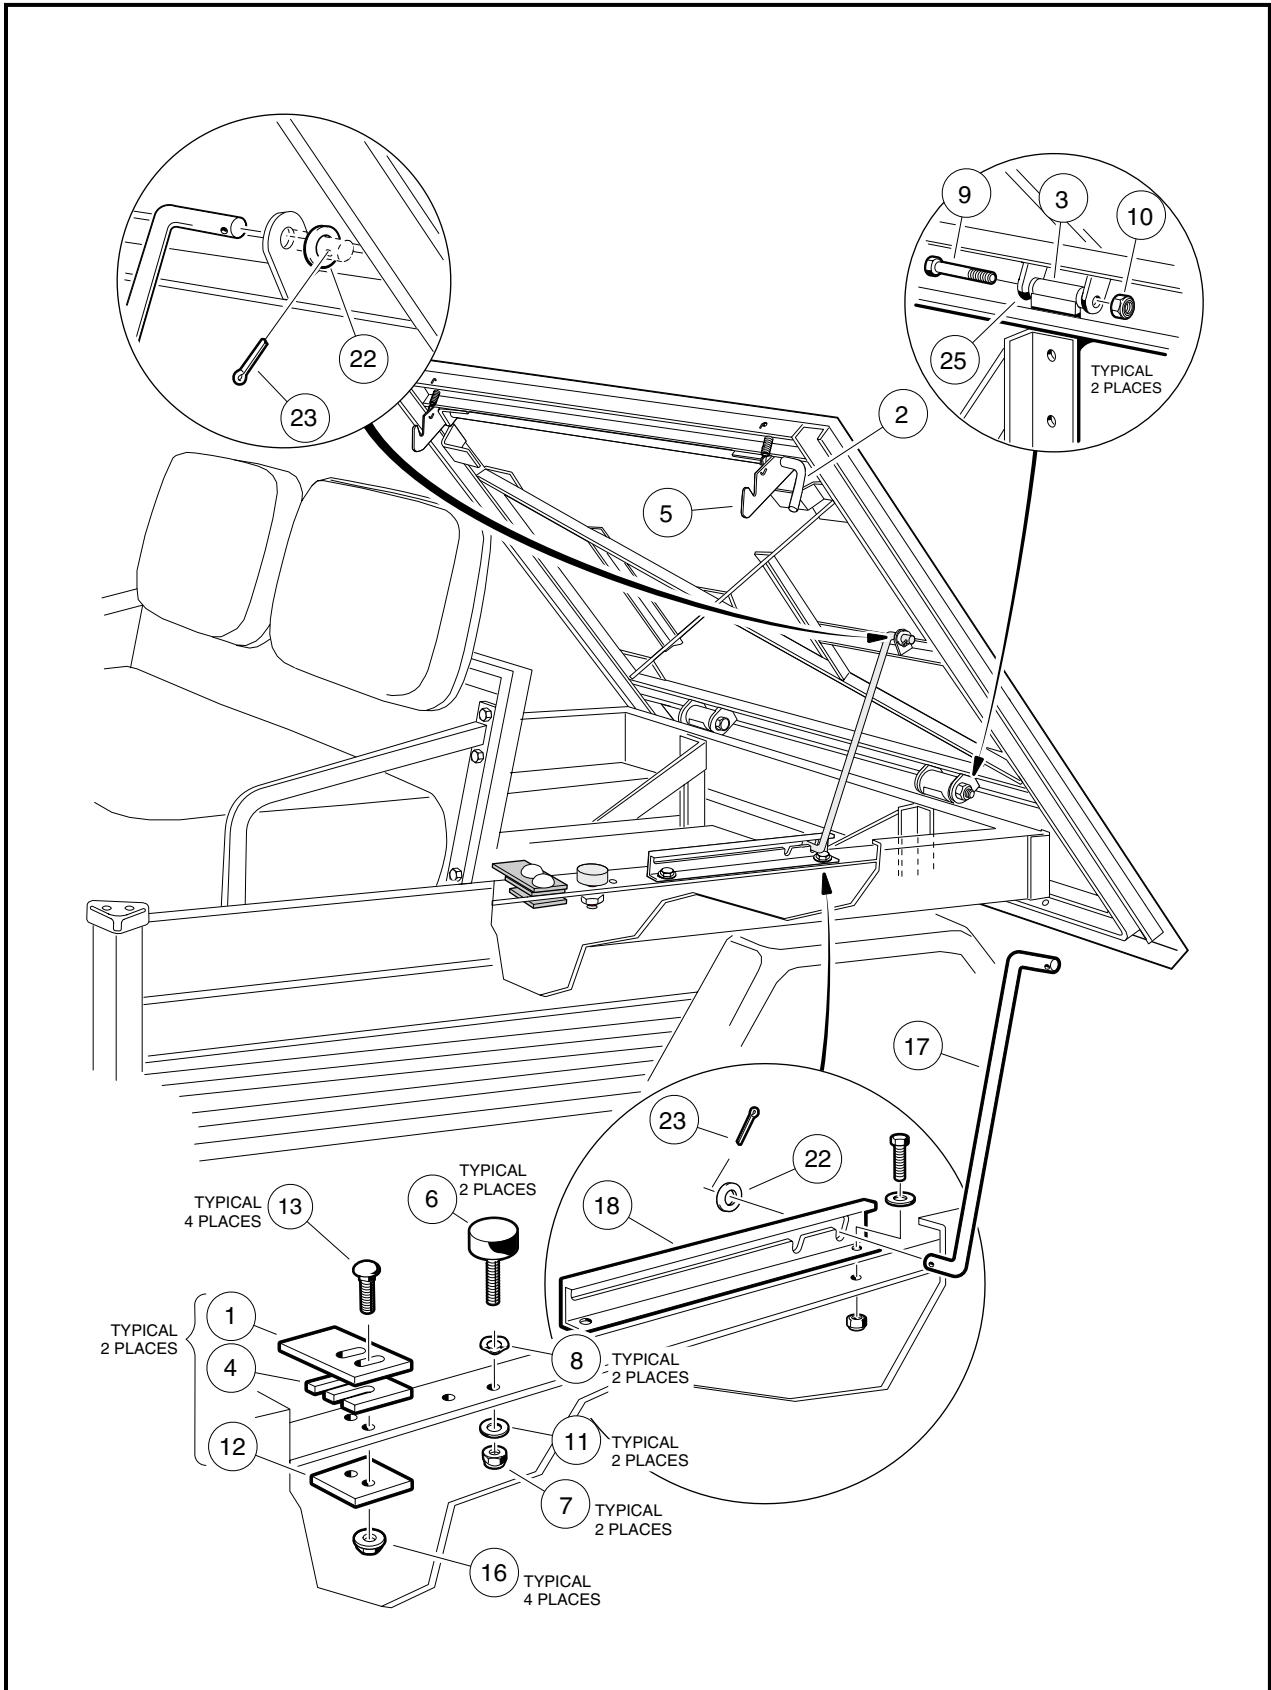

Figure 4-2 Tilt Bed - Turf 1, 2, Carryall 1, 2 and 2 Plus
1. **Turf 2, Carryall 2 and 2 Plus Only:** Raise bed and secure prop rod (17) in prop rod track (18). Hold bed securely in an upright position. Remove cotter pin (23) and flat washer (22) from top end of prop rod where prop rod attaches to bed. Remove prop rod (17) from bed and place prop rod between prop rod track (18) and rear body panel. Lower bed onto vehicle frame (**Figure 4-2, Page 4-6**).
2. Remove two locknuts (10) from left and right tilt bed hinge assemblies (3) (**Figure 4-2, Page 4-6**).
3. Apply slight upward pressure (by hand) on the rear of the bed to relieve pressure on the hinges and remove the hinge bolts (9) from the hinge assemblies (**Figure 4-2, Page 4-6**).
4. Raise rear edge of bed approximately 6 inches (15.2 cm) and pull bed assembly toward rear of vehicle approximately 3 inches (7.6 cm) to release bed latch assembly (2) from latch plate (1) (**Figure 4-2, Page 4-6**).
1. Hold bed at a slight angle (front of bed lower than rear of bed) to vehicle and place front edge of bed onto vehicle frame. Bed latches (5) should be engaged with latch plates (1) **(Figure 4-2, Page 4-6)**.
2. Lower edge of bed onto vehicle and align hinge brackets (3) with bed hinge (25) **(Figure 4-2, Page 4-6)**.
3. Start the 3/8 x 3-3/8 bolts (9) into left and right hinge assemblies (3 and 25). (It may be necessary to use an alignment tool to align holes in hinge bracket with steel bushing in hinge assembly) **(Figure 4-2, Page 4-6)**.
5. Install the nylon locknut (10) on each bolt (9) and tighten to 15 ft-lb (21 N·m) **(Figure 4-2, Page 4-6)**.
6. **(Turf 2, Carryall 2 and 2 Plus Only)** Lift bed and place the prop rod (17) in bed mounting hole. Install a 3/8 flat washer (22) and cotter pin (23) on prop rod **(Figure 4-2, Page 4-6)**.